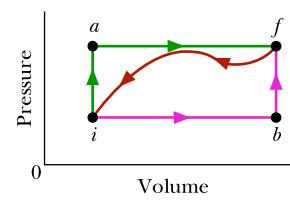

Figure 18.17 Problem 47.
**47 M SSM** When a system is taken from state  $i$  to state  $f$  along path  $iaf$  in Fig. 18.17,  $Q = 50\text{ cal}$  and  $W = 20\text{ cal}$ . Along path  $ibf$ ,  $Q = 36\text{ cal}$ . (a) What is  $W$  along path  $ibf$ ? (b) If  $W = -13\text{ cal}$  for the return path  $fi$ , what is  $Q$  for this path? (c) If  $E_{int,i} = 10\text{ cal}$ , what is  $E_{int,f}$ ? If  $E_{int,b} = 22\text{ cal}$ , what is  $Q$  for (d) path  $ib$  and (e) path  $bf$ ?